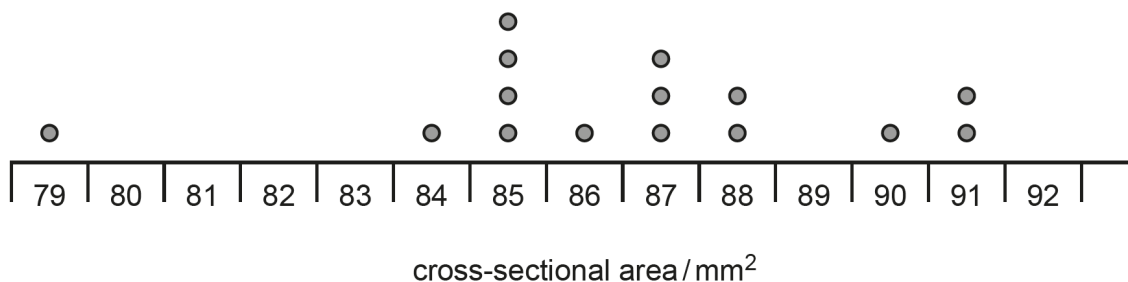

Fig. 2.2
- (ii) Before setting up the apparatus, the student took measurements with vernier calipers of the internal diameter of the tube containing the gas. The student created the dot plot of cross-sectional area shown in **Fig. 2.2**.